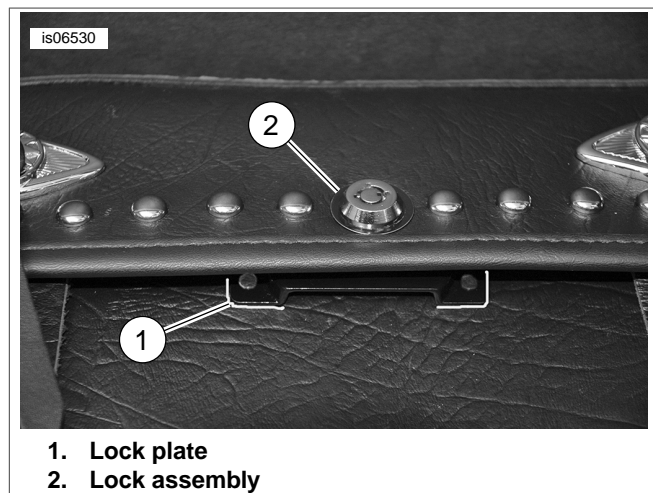

Figure 5. Positioning lock plate
12. See Figure 5. Place lock plate (1) in a horizontal position on outside of the saddlebag tub. Close the lid to center the lock plate with the lock assembly (2) with T-bar (not shown, under lid) in horizontal position and carefully lift lid and mark location of lock plate.